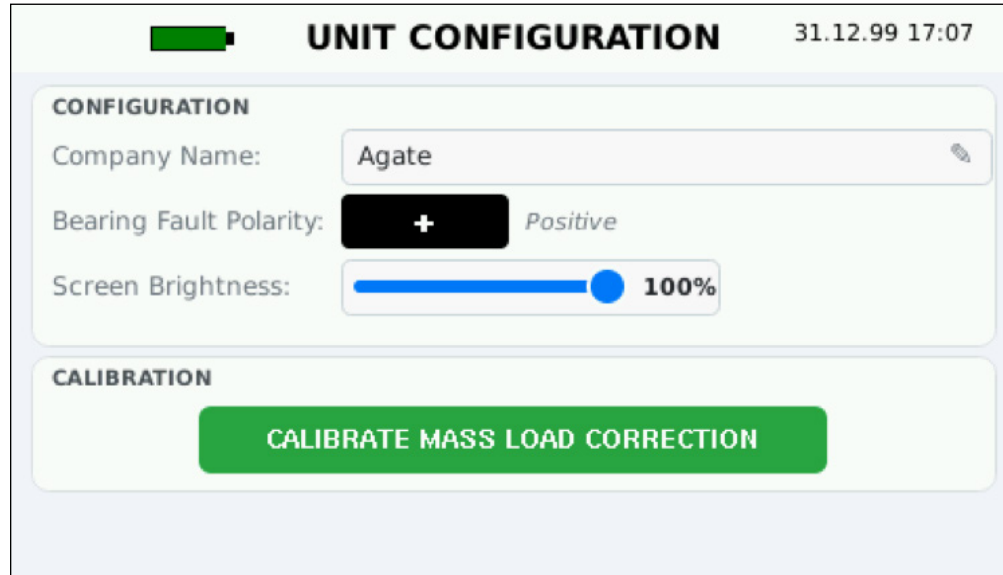

Figure 29
2. On the Unit Configuration screen (*Figure 29*), you can change the company name, change the bearing fault polarity to positive or negative, adjust the screen brightness, or calibrate the mass load correction:
2. Enter the company name (*Figure 29*).
1. On the Unit Configuration screen, select the **- / + button** next to Bearing Fault Polarity to toggle the signal polarity between negative and positive (*Figure 29*):